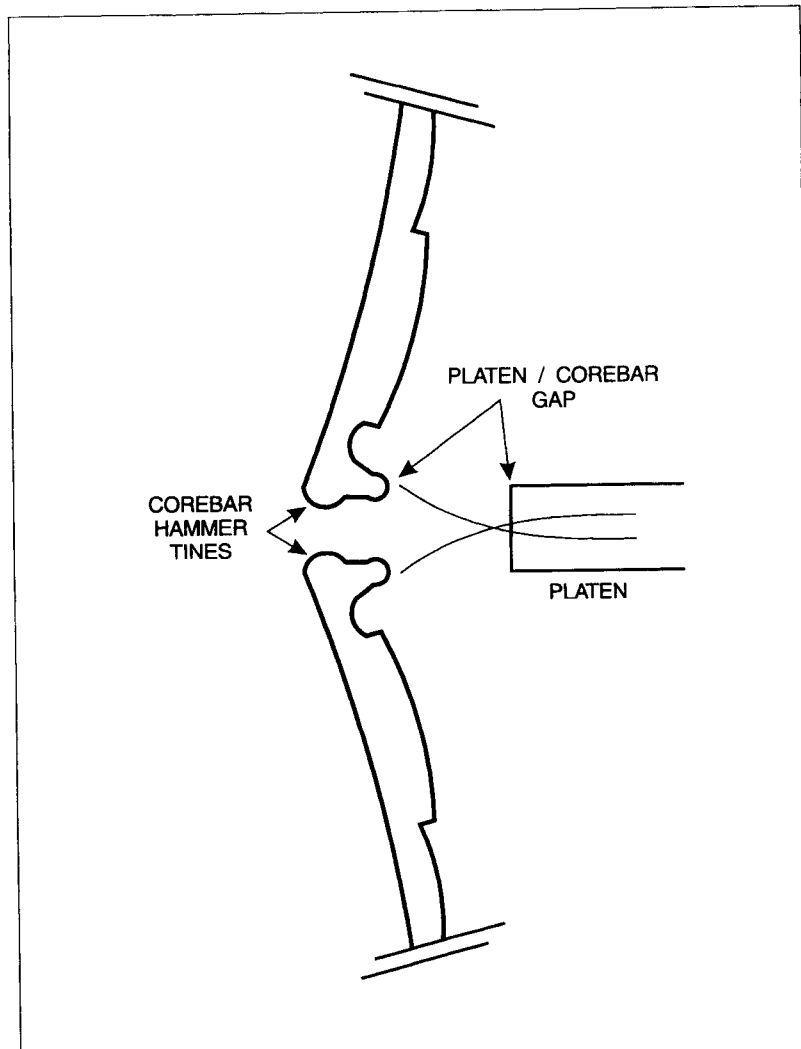

Figure C-2. Platen/Printbar Gap
**Hint 1:** Initiate self-test 15, which is a set of vertical and horizontal lines (see Paragraph 4-3). Examine the horizontal lines. If the length of the raised or lowered sections is 0.2 inch (or two 10 pitch character cells), then the platen/printbar gap is incorrect. When there are 0.2 inch wide sawtooths, adjust the print gap lever (located on the lower right side of the printer) one click at a time. Initiate self-test 15 again and see if there is a change. When the gap is adjusted correctly, the horizontal lines will have superimposed anomalies of 0.001 to 0.002 inch (an acceptable limit). If the adjustment cannot achieve this, then the platen/printbar gap must be adjusted (see Paragraph 5-4), or the printbar replaced (Paragraph 6-25). Figure C-2 illustrates the relationship of the interleaved hammer tine paths with the printbar/platen gap. If the gap is adjusted either too small or too large, the dots printed by adjacent tines will not be aligned.